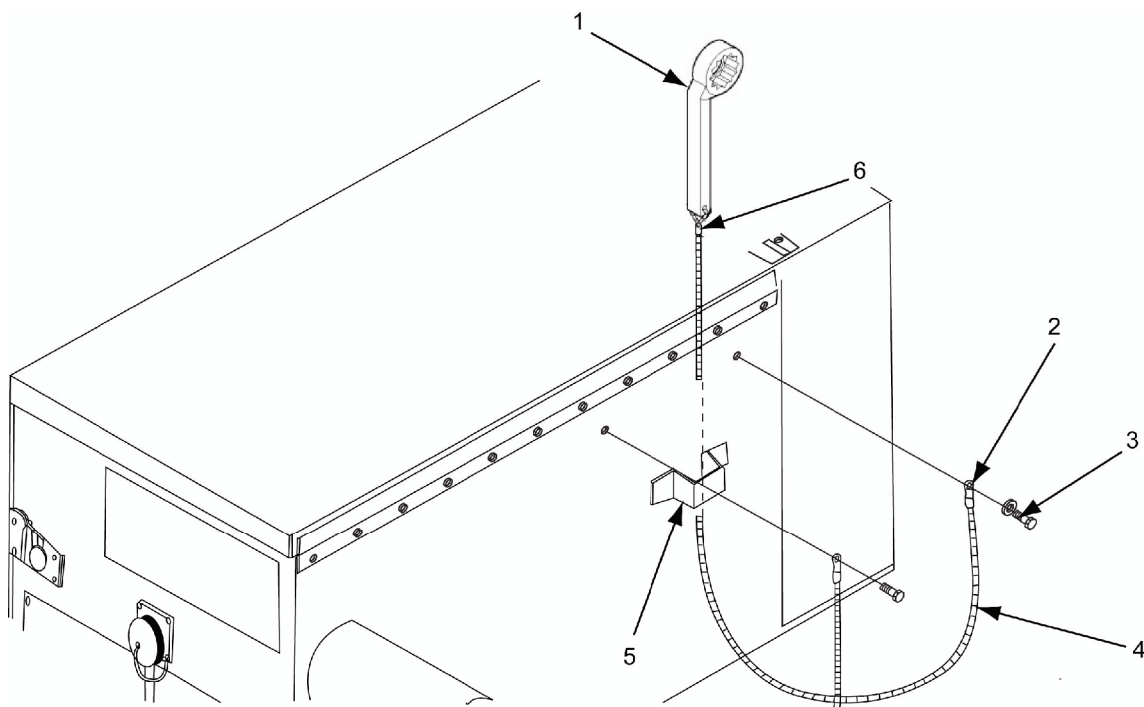

Figure 4-11.1. Switch Box Load Terminal Wrench Assembly Replacement (B&C Models)
1. Drill out rivet (3, figure 4-11.1) that secures rope (4) to switch box.
2. Remove box wrench (1) with attached rope (4) from loop clamp (5).